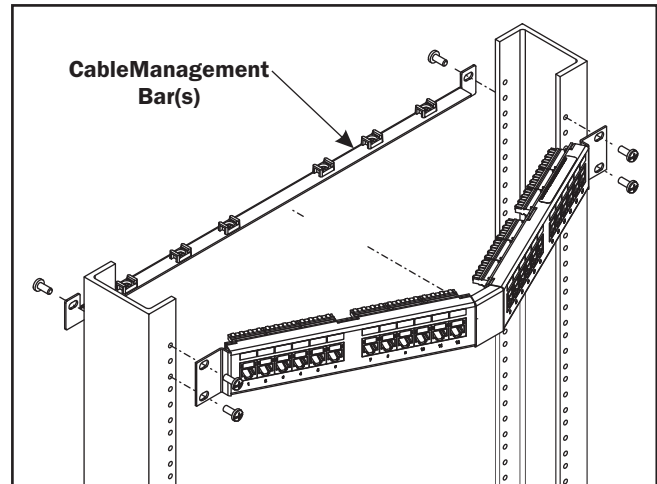

Figure 1
Step 1: Line up the holes at the corners of the panel with the corresponding mounting holes of the EIA compliant rack. Secure the panel with the four (4) screws provided. Attach cable management bar(s) to the rear of the rack with (2 or 4) screws. See Figure 1.